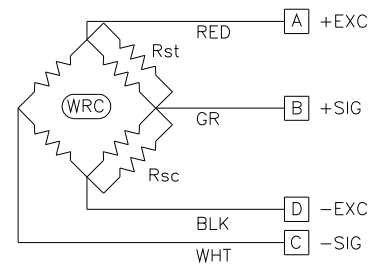

Figure 6 - Shunt Resistor Locations
Shunt calibration simulates the mechanical input to a transducer by unbalancing the bridge with a fixed resistor placed across, or in parallel with, one leg of the bridge. For tension shunt calibration, or +CAL, the shunt resistor (R_{st}) is shunted across the +Excitation (A) and +Signal (B) leg of the bridge. For compression shunt calibration, or -CAL, the shunt resistor (R_{sc}) is shunted across the -Excitation (D) and +Signal (B) leg of the bridge. Refer to **Figure 6** for shunt resistor locations in the Wheatstone Bridge circuit.